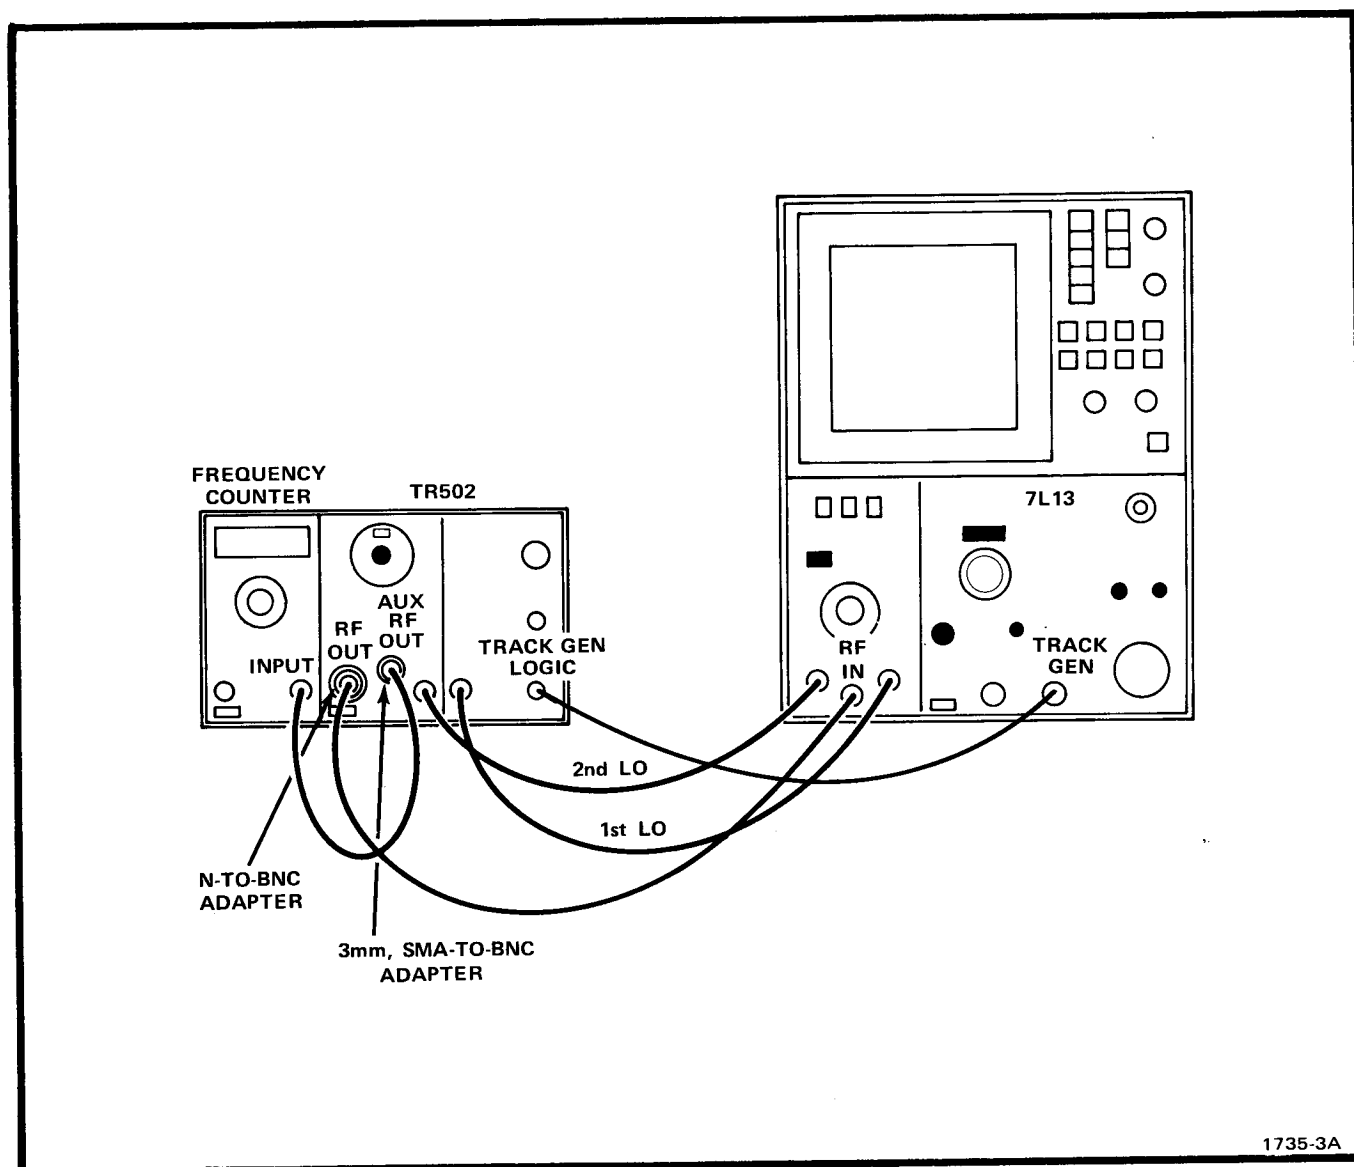

Fig. 2-1. TR 502/7L13 Spectrum Analyzer System with a Frequency Counter.
b. Using the coaxial cables, supplied with the standard accessories, connect the 1st and 2nd LO Output ports of the spectrum analyzer to the 1st and 2nd LO Input ports of the TR 502, then connect the RF OUT to the RF Input of the spectrum analyzer. If a frequency counter is used, connect the AUX RF OUTPUT of the TR 502 to the RF Input of the counter. Fig. 2-1 illustrates system hookup.